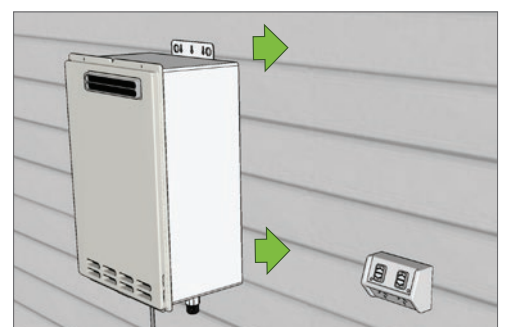

Fig 15
2. Fix the booster to the wall as per the manufacturer manual (fig 15)